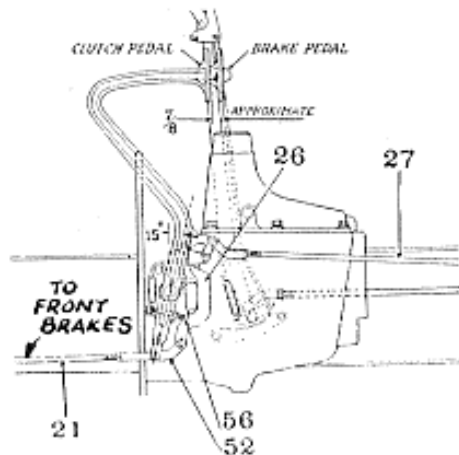

Fig. 1—Side view pedal and rear linkage
1. Before adjusting clearances disconnect both rear pull rods (38 and 39) so that rear brake camshaft levers (42 Fig. 2) may take their natural position due to adjustment. Adjust clearance at anchor (51, Fig. 1) to .010 to .015 in.
2. Adjust clearance at lower half of band by means of adjusting nut (49) then at upper half by means of nut (48) (Fig. 1). Top and bottom of band should have .025-.030 in. lining-to-drum clearance. Do the same to the other rear brake.
3. Band Operating Levers—Adjust camshaft outer lever set screw (44) so that eye of band operating lever stands $5/32$ in. back of center line (X-Y) of band adjuster bolt (47). Lock set screw and make sure that end of set screw rests against clamped collar. Do the same to the other rear brake lever. (Figs. 1 and 2.)
8. Equalizer Yoke and Forward Rods—Disconnect the front brake pull rod (21) and pedal rod (27). Move pedal equalizer yoke (26) so that the bell crank (52) at lower end of pedal is in line with pedal arm. With yoke in this position adjust clevis of pedal rod (27) so that front pin can be inserted without moving pedal. With rod (27) adjusted to proper length the clevis pin at its rear end will be $1/8$ in. from rear end of slot (Fig. 1.)